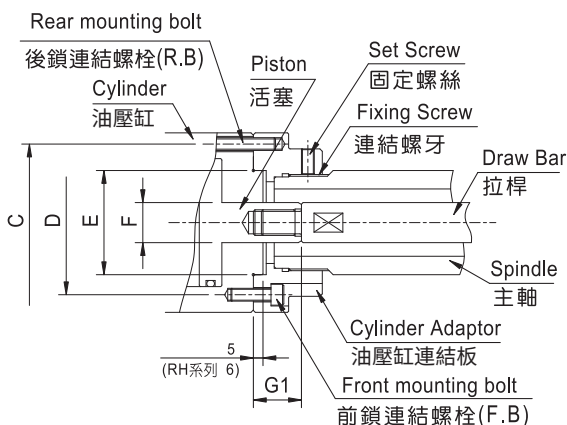

Fig.3 油壓缸連結板的安裝
- 確使油壓缸裝置儘量靠近車床主軸支撐處。(參照 Fig.3)
- Be sure cylinder near the spindle support of the lathe. (Refer to Fig.3)